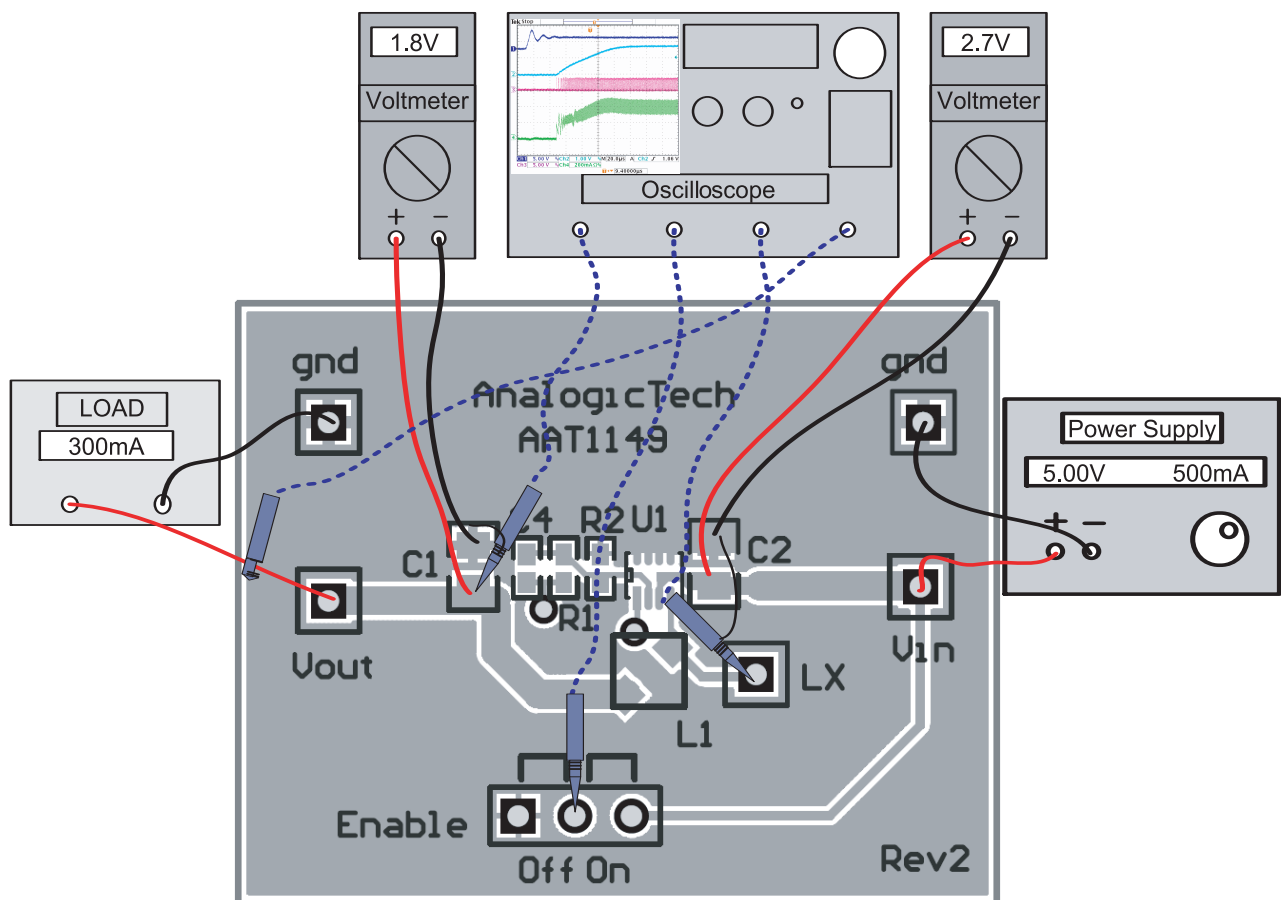

Figure 6: AAT1149 Evaluation Board Connection Diagram for Startup.
1. Configure the specified test equipment as shown in Figure 6.